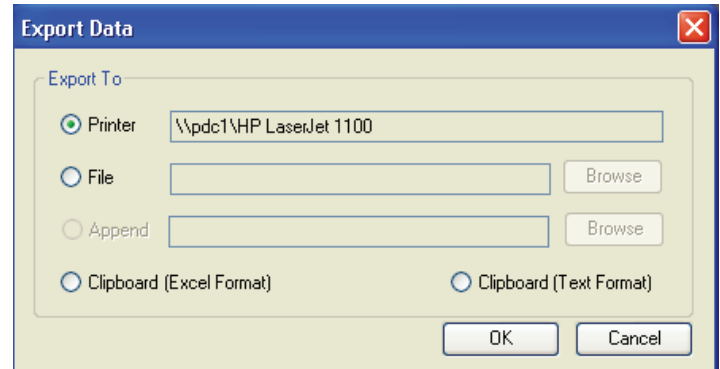

Figure 18. Output Data Selection Box.
9. Exporting Data. The Export tool provides a way to export the data to a printer, to the clipboard, or to an ASCII file (Figure 18). This ASCII file can then be imported into a spreadsheet for further analysis and/or graphing.